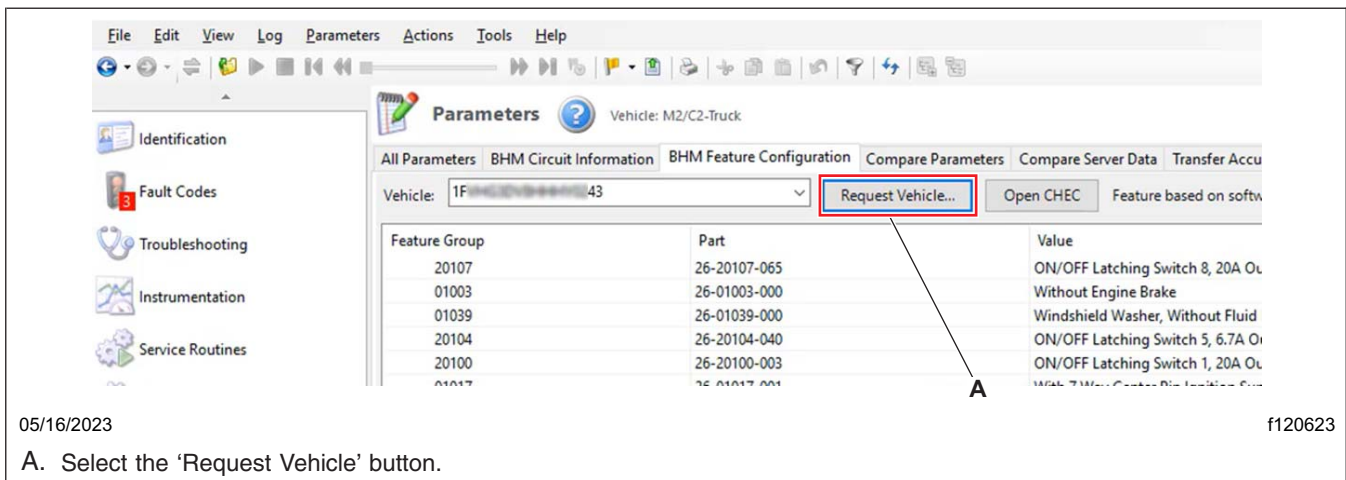

Fig. 4, Receiving the Latest Parameters from the Server
- Select the 'Request Vehicle' button to receive the latest parameters from the server. See Fig. 4.